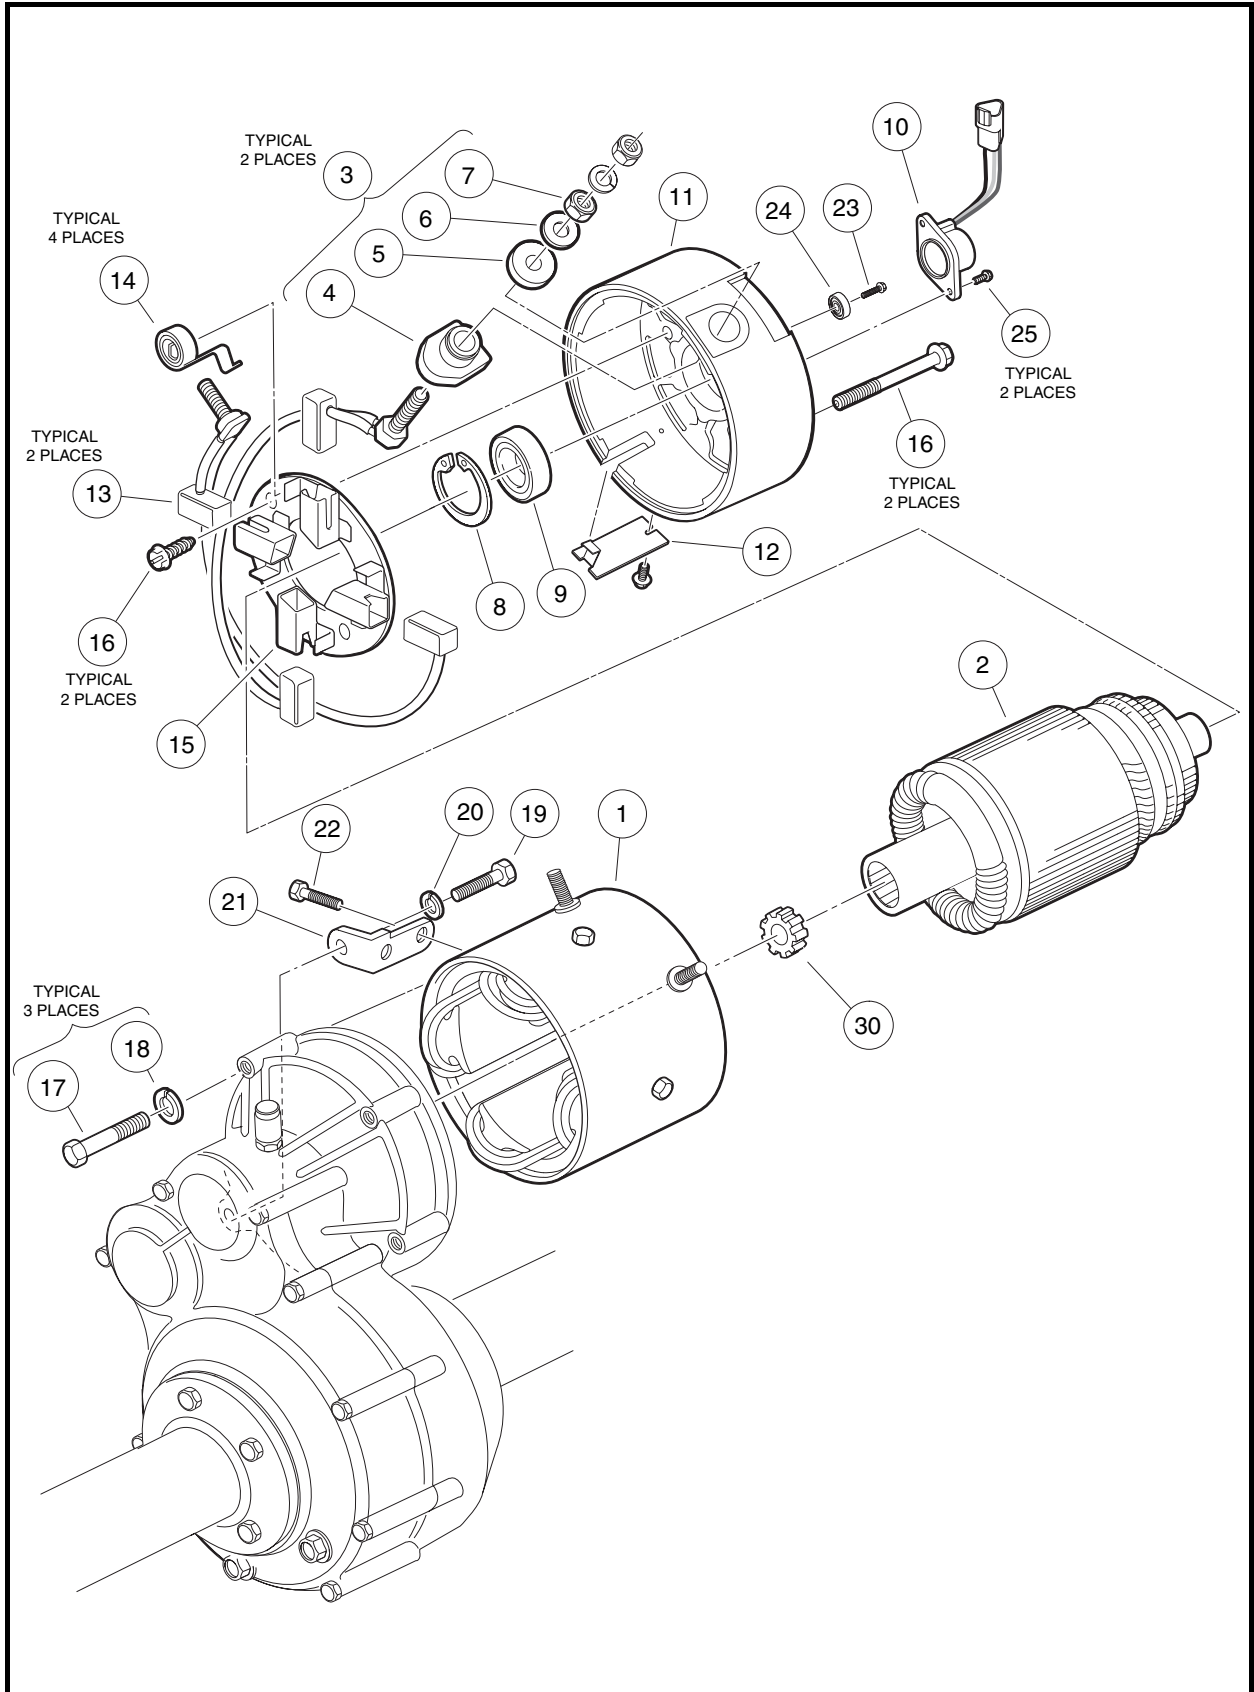
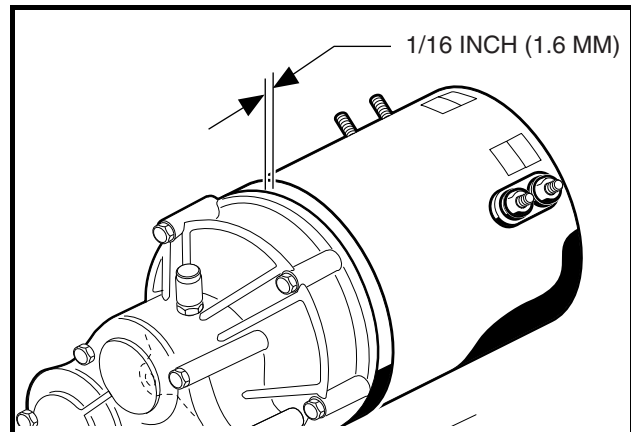

Figure 27-15 Motor – Model EJ4-4001
Figure 27-23 Gap at Motor and Transaxle
3. Inspect the brush springs (14) (**Figure 27-15, Page 27-10**). Replace springs that are discolored from heat (light gold or blue tinted).
3. Inspect the brushes (13) for damage or excessive wear (**Figure 27-15, Page 27-10**). Replace brushes if required. **See preceding NOTE.**
1. Inspect the insulators (4 and 6) for cracks or other damage (**Figure 27-15, Page 27-10**). Replace insulators as required.
Inspect the speed sensor magnet (24) for rust, wear, and cracks (**Figure 27-15, Page 27-10**). Replace the magnet if necessary.
- 2.2. Insert the two terminal posts through insulators (4) in the end cap (11) wall at the A1 and A2 positions (**Figure 27-15, Page 27-10**).
- 2.3. Place external insulators (5) and washers (6) on each terminal post, and secure terminal with nuts (7). Tighten nuts (7) to 100 in-lb (11.3 N·m). Ensure that the terminal posts do not rotate when tightening the nuts (**Figure 27-15, Page 27-10**).
5. Align the match marks on the end cap and the motor frame (1) and secure with two bolts (16) (**Figure 27-15, Page 27-10**). Tighten bolts to 130 in-lb (14.7 N·m).
6. Install the speed sensor magnet (24) with screw (23). Tighten to 65 in-lb (7.3 N·m).
7. Install the speed sensor (10) with screws (25). Tighten to 25 in-lb (2.8 N·m).
- 3.1. With the flat side toward the bottom of the coupling, install the molded bumper (30) into the motor coupling (**Figure 27-15, Page 27-10**). **See following NOTE.**
When the motor is pushed onto the input shaft, the motor housing will not bottom out against the transaxle housing (**Figure 27-15, Page 27-10**). There will be approximately 1/16 inch (1.6 mm) gap between the motor adapter ring and transaxle housing as shown (**Figure 27-23, Page 27-14**).